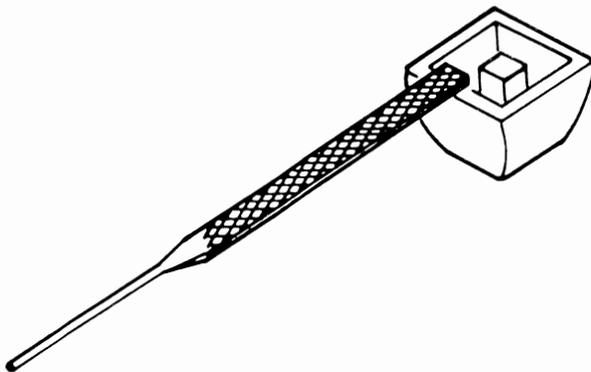

Fig. 2-9. Filing the edges of the key.
- ☐ If the key is not binding on the case, pop the key off and lightly file the edges of the key itself (Fig. 2-9). This should loosen the fit between the key and the key case so that the key can move more freely and no longer stick.